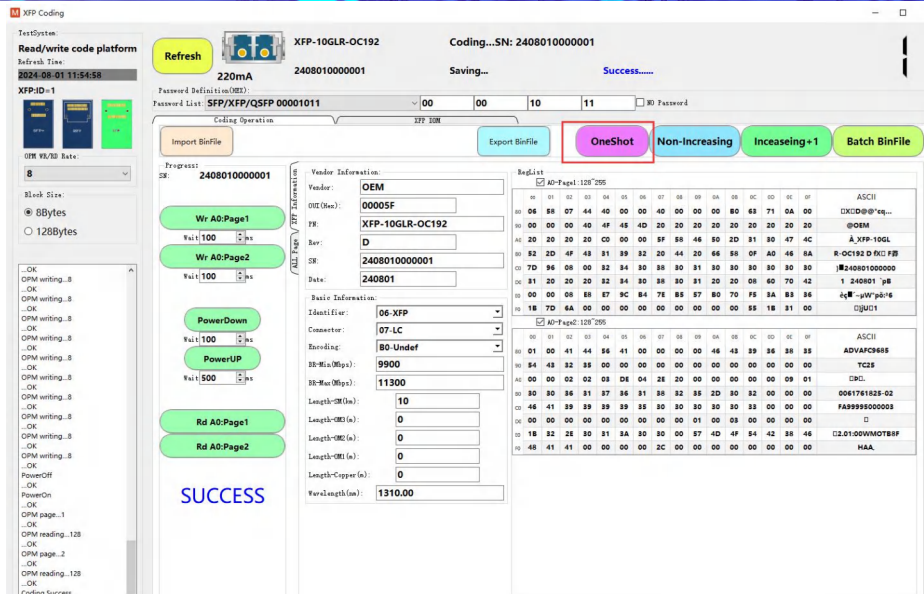

Figure 34
3.1.6 Click “OneShot” and wait for the prompt “Success,” indicating that the module programming is complete (Figure 34).
3.2.3 Click “OneShot” and wait for the prompt “Success,” indicating that the module programming is complete (Figure 34)